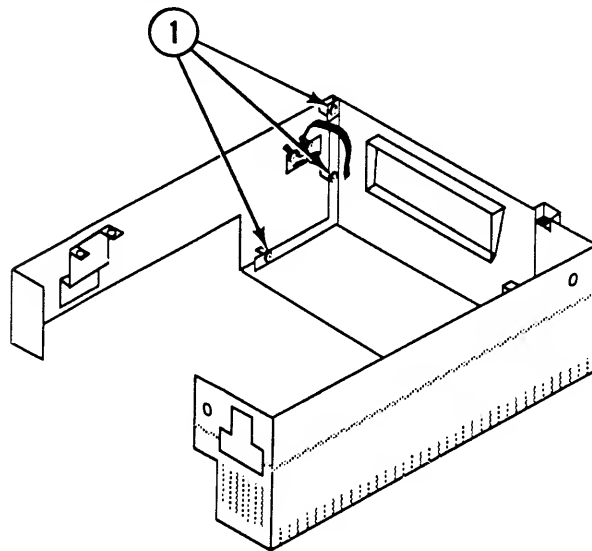

FIGURE 3
2. Remove the three Phillips screws (Figure 3, #1) that secure the front panel to the upper right panel.